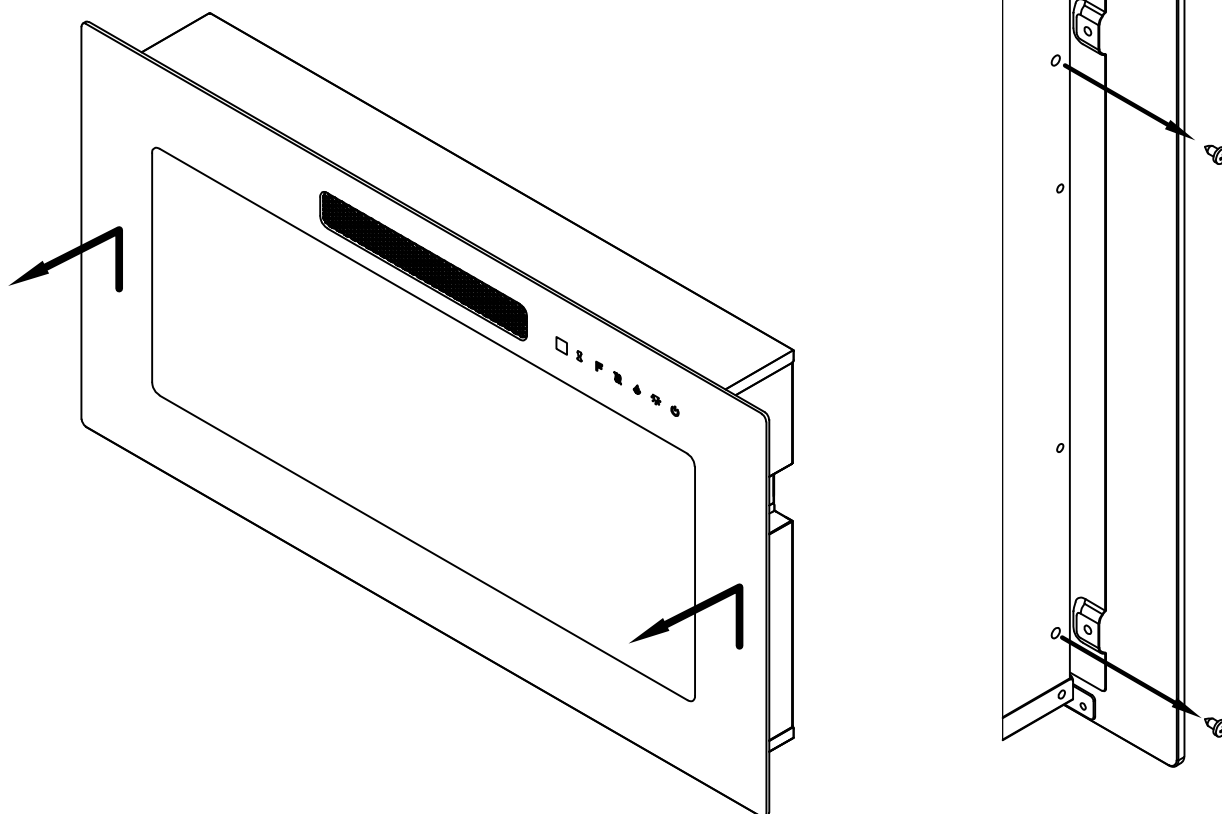
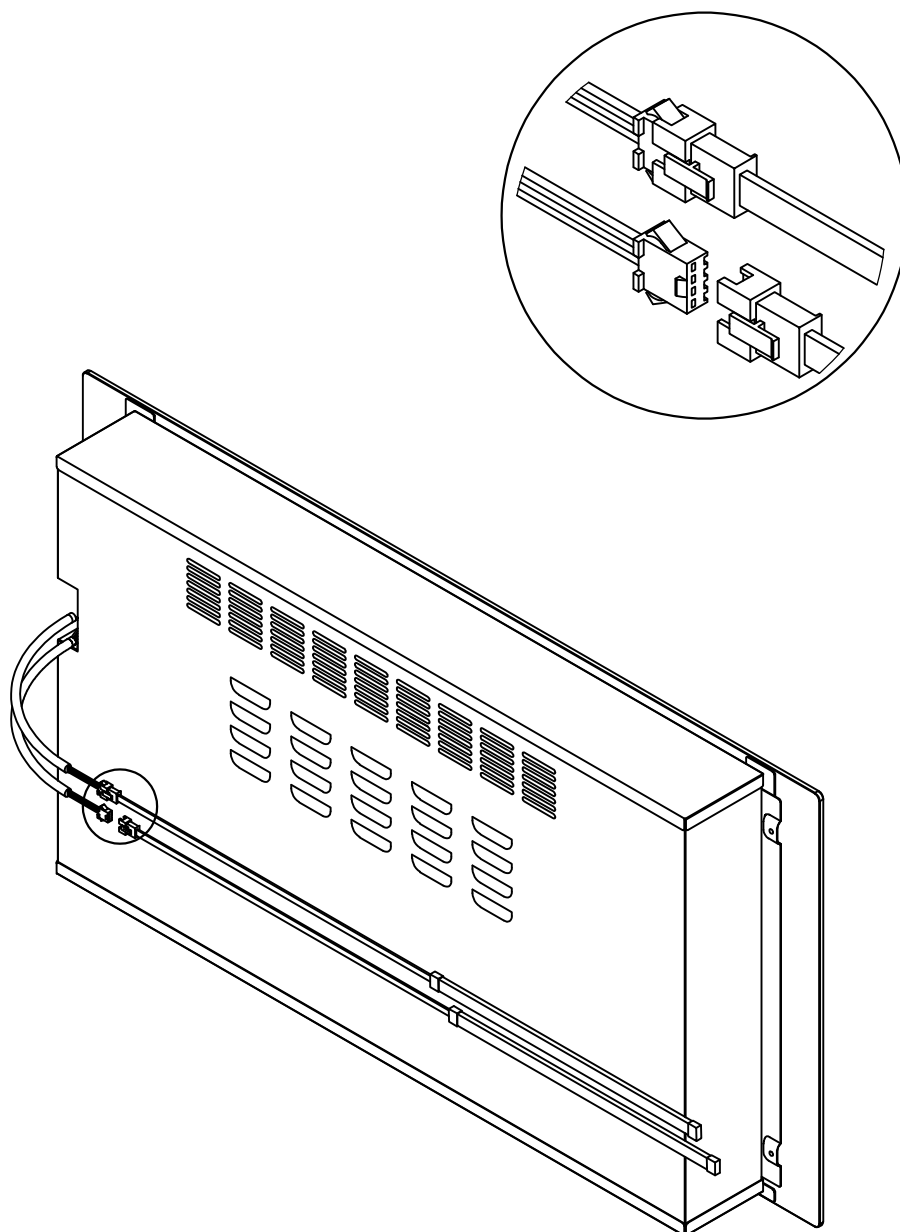

Fig.1
Fig.5
Installation (see Fig1~Fig5)
- Remove four silver screws from the sides of the heater, two screws on each side. Remove two screws from the front of the heater. Remove the tempered glass by lifting it from the lugs on the sides. see (Fig.1)
- Connect the LED lights with the power cables.(Fig.5)